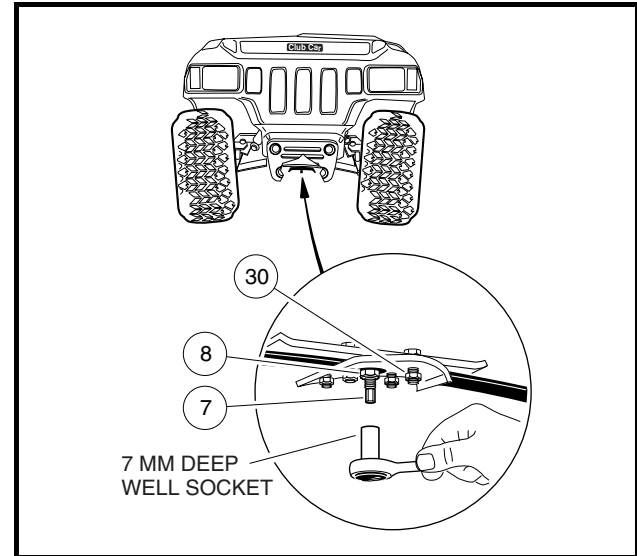

Figure 7-16 Adjust Camber
2. Loosen, but do not remove, the four bolts (30) that secure the leaf spring (6) to the bottom spring plate (29) (**Figure 7-20, Page 7-18**). See also **Figure 7-16, Page 7-14**.
3. Loosen, but do not remove, the hex nut (8) on the adjustment eccentric (7) (**Figure 7-16, Page 7-14**) in the center of the spring. See also **Figure 7-20, Page 7-18**.
4. Use a 7mm deep-well socket to rotate the eccentric (**Figure 7-16, Page 7-14**).
6. Tighten the hex nut (8) on the adjustment eccentric (7) to 10 ft-lb (13.5 N·m) (**Figure 7-20, Page 7-18**) See also **Figure 7-16, Page 7-14**.